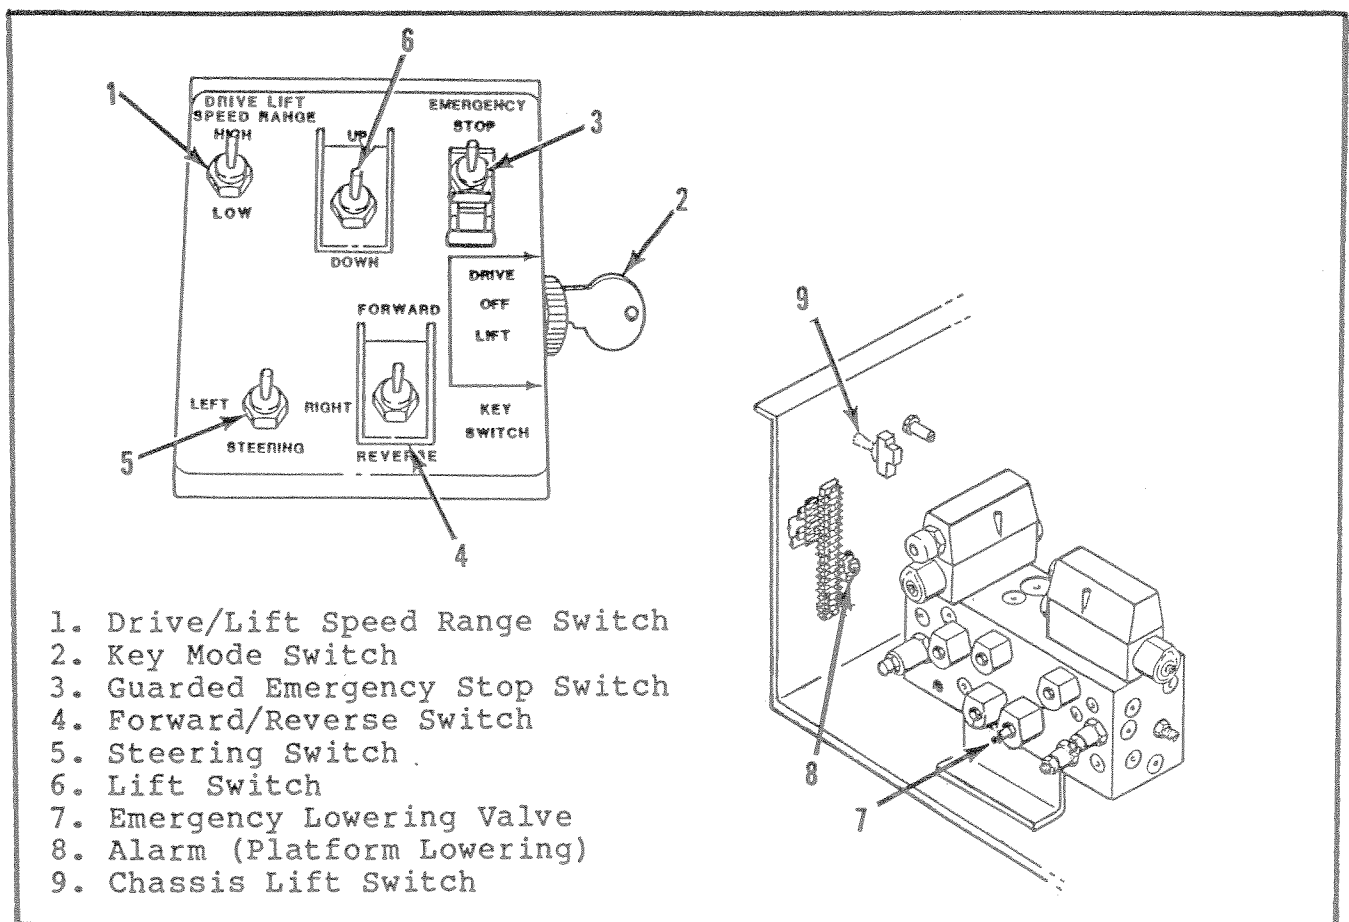

Figure 4-1. Controls and Indicators
**4-6. CONTROLS AND INDICATORS.** The controls and indicators for operation of the SL-20 Work Platform are shown in Figure 4-1. The name and function of each control and indicator are listed in Table 4-1. The index numbers in the figure correspond to the index numbers in the table. The operator should know the location of each control and indicator and have a thorough knowledge of the function and operation of each before attempting to operate the unit.
#### 4-10. TRAVEL WITH PLATFORM LOWERED (Figure 4-1).
4-12. TRAVEL WITH PLATFORM ELEVATED (Figure 4-1).